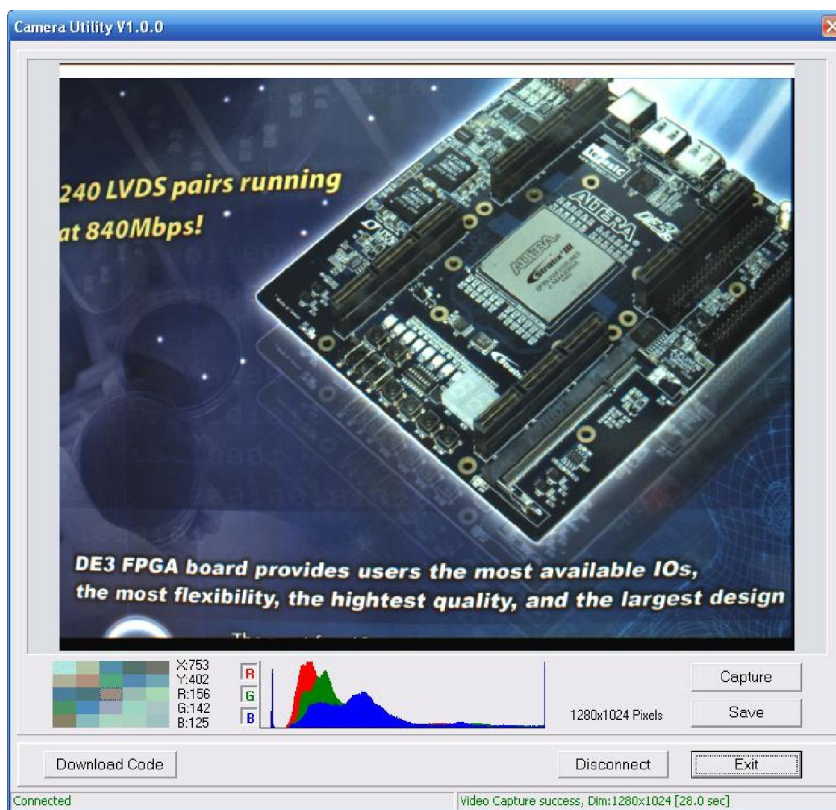

Figure 3.5. The DE2_70_camera tool
12. Users can upload the captured image to PC by clicking the 'Capture' button of the 'DE2_70_CAMERA.exe' as shown in Figure 3.5. Meanwhile, the digital camera is set to photo-taking mode. Press **KEY3** to switch back to FREE RUN mode.